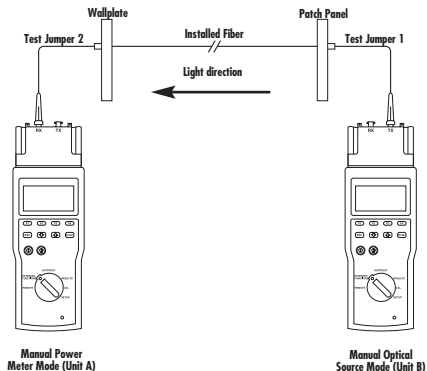

Figure 6-4. Testing installed fiber in Manual Power Meter mode per TIA OFSTP-14A, Method B.
10. Connect the Fiber Meter handsets to the installed fiber as shown in Figure 6-4. Loss measurements are automatically displayed.